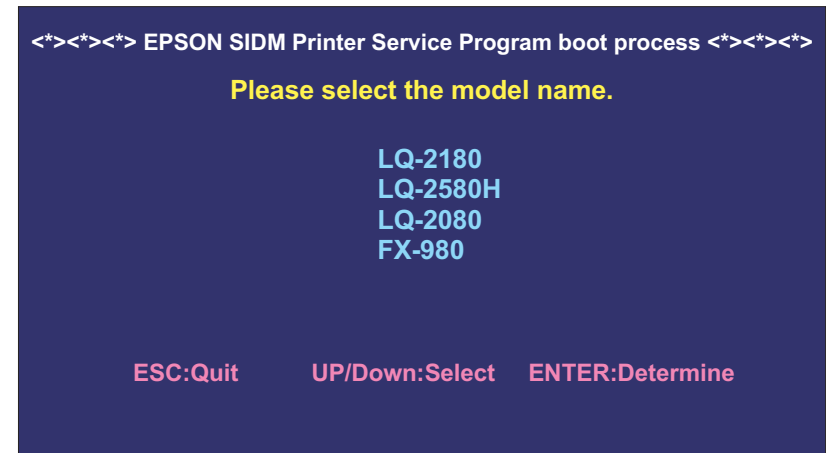

Figure 4-1. LQSERIES.EXE Initial Screen
- Select "No" if you have input a wrong model name in the screen shown in Figure 4-1.